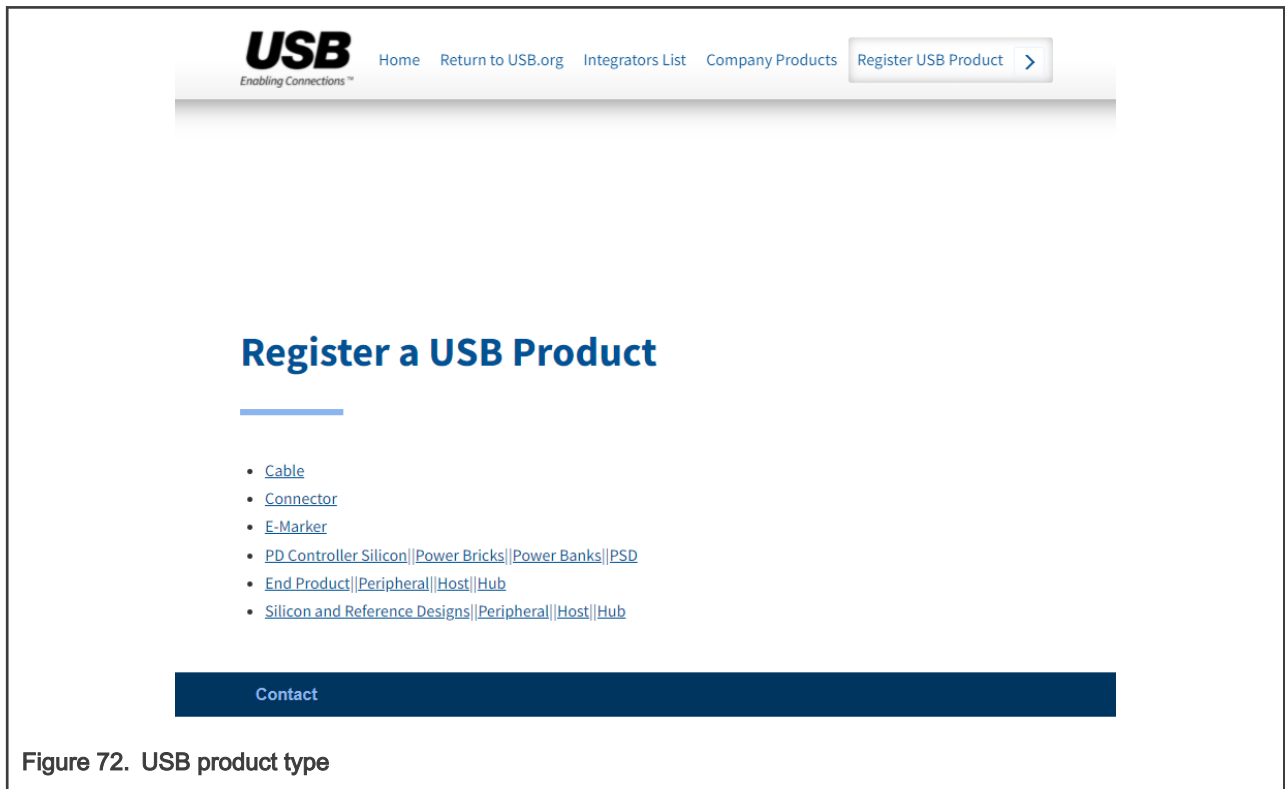

Figure 72. USB product type
2. After logging in, click **Visit the Compliance Management Area** to enter the management interface. Click **Register USB Product**. Select a product type for your product, as shown in Figure 72. If you do not know what product type to choose, consult your test lab.